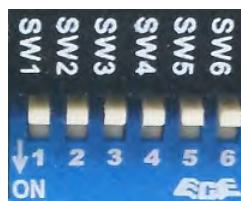

Figure 12 DIP switch for current & micro step configurations
*The output current configuration is required.* Use SW1, SW2, and SW3 of the 6-pin DIP switch (Figure 12) of a stepper drive module to configure the output current to the driven stepper motor. Refer to Table 1 for available output current settings.
*The micro step resolution configuration is required.* Use pin 4, 5, and 6 of the 6-pin DIP switch (Figure 12) of a stepper drive module to configure the micro step resolution for the driven stepper motor. Refer to Table 2 for available micro step resolution settings.